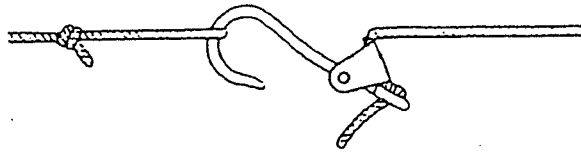

Fig.5
- (5) Fig. 5 illustrated below, shows how a hook is to be attached so as to adjust the length of the cord and also to prevent its slackness.